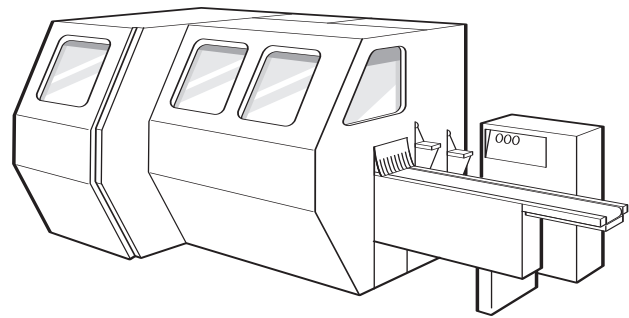

Figure 1 Integral enclosure – close-fitting round feed area with controls outside and overlapping strips across opening
- Feed openings should be as small as possible, adjustable or no larger than the maximum cross-section the machine can process (see Figure 1).
- Machine controls should be outside the enclosure (see Figure 1).